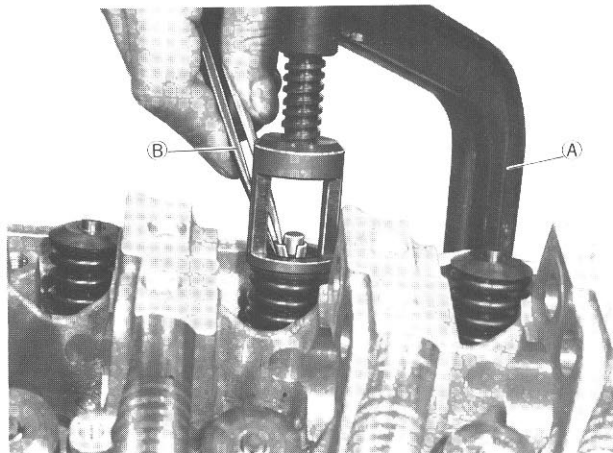

Fig. 3-122 ① Valve lifter (09916-14510) ② Forceps (09916-84510)
To fit valve cotters to the groove provided on the end portion of each valve stem, be sure to use the valve lifter ① (09916-14510): compress the valve spring with this lifter and mount the cotter pieces, as shown in Fig. 3-122.